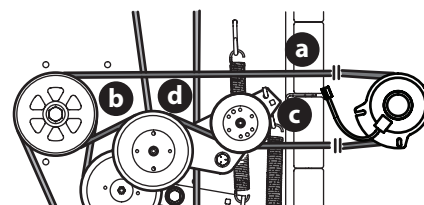

Figure 59
1. Remove the PTO belt (a) from the deck as instructed in the Deck Removal section then remove it from around the PTO clutch (Figure 59).
2. Route the PTO belt (a) (Figure 59).
3. After routing the belt around the PTO pulley (b), use a 1/2" drive in the idler pulley bracket (c) and turn towards the right of the mower to finish routing the belt around the idler pulley (d) (Figure 59).